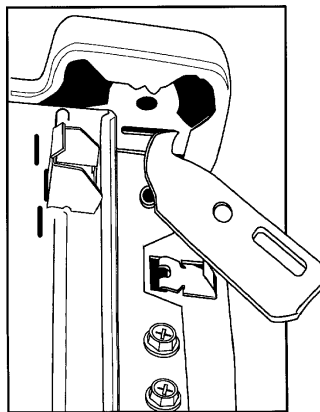

Figure 5-6
4. To remove the hold down brackets, swing the bracket to the outside to unhook the bracket from the slot in the top cover lip (*Figure 5-6*).